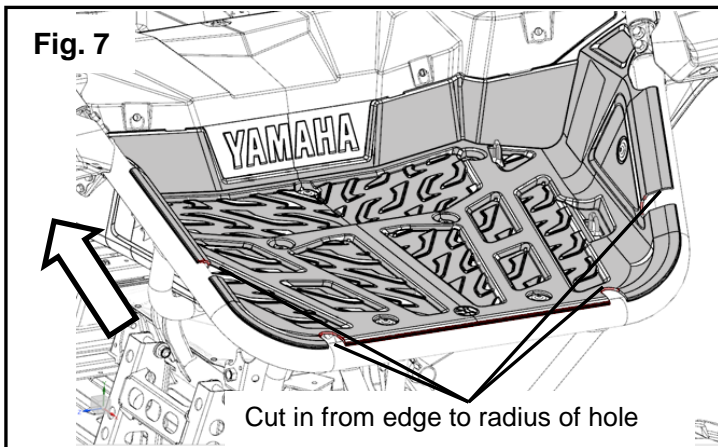

Fig. 7
- Use a hack saw or similar reciprocating saw to cut straight lines from the edge of the plastic bed to the holes drilled in step 9. See Fig. 7. Re-install the stock bolts on the cargo bed to secure it to the frame. **Skip to Step 11 if you are installing to a '16-'18 model year YXZ.**
**Note:** If the plastic bed interferes with the Spare Tire Rack, carefully mark the bed for additional trim cuts. Enlarge the cutouts just enough to fit the clamps and rack to the tube frame. See Fig. 7 and 9.